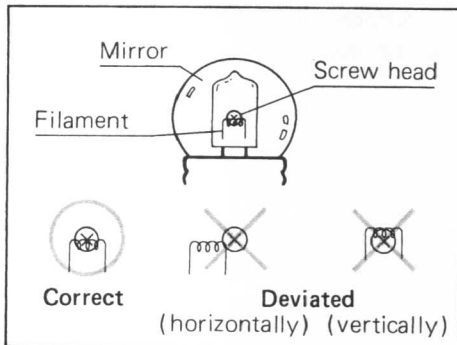

Fig. 7
3) Looking at the bulb from the front, confirm that the filament image covers the lower half of the screw head on the mirror surface. (Fig. 7)